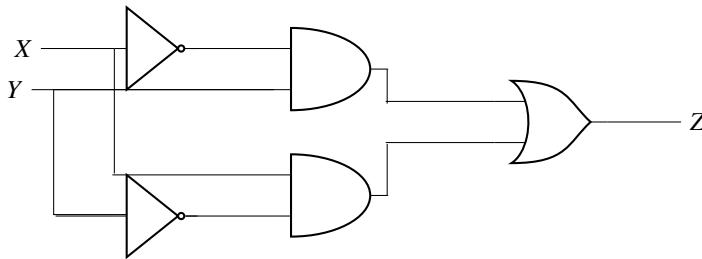

Fig. 4.18
29. In the circuit shown below in Fig. 4.18, X and Y are digital inputs, and Z is a digital output. The quivalent circuit is a (GATE EE 2019)